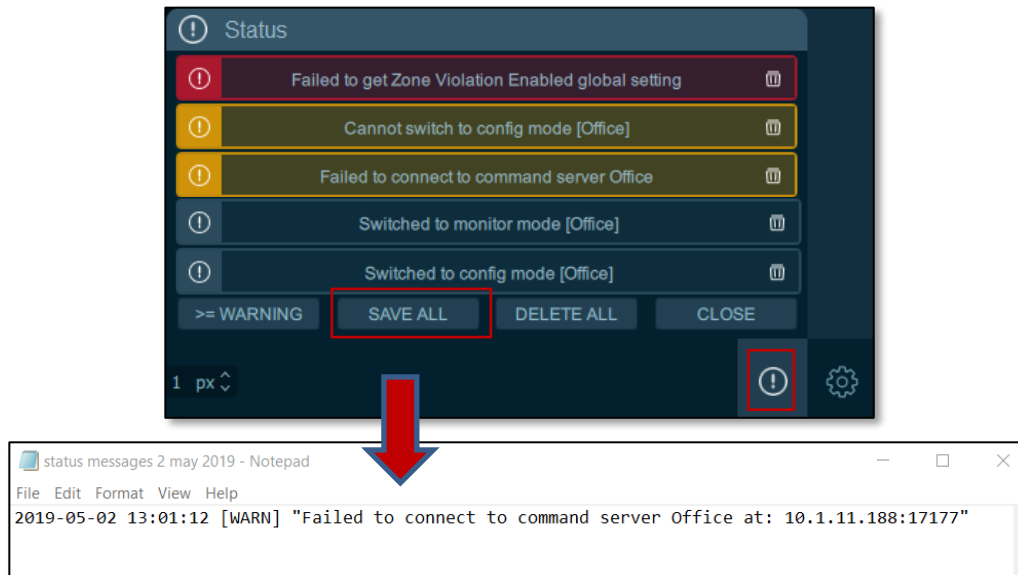

Figure 39. Status Button to Access Notifications (top), Saved Messages (bottom)
5. Click **SAVE ALL** to save the current list to the filepath and filename specified in the file browser. See *Figure 39. Status Button to Access Notifications (top), Saved Messages (bottom)*.